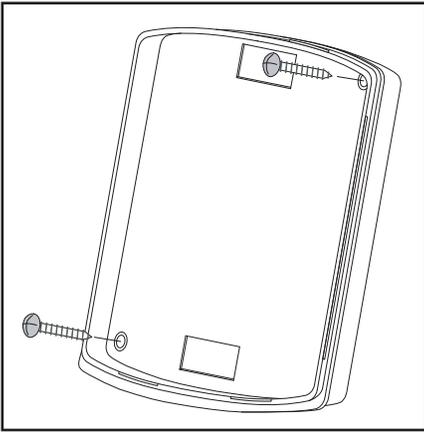

Figure 3: Screw Mount
These instructions cover installing the 1141 on an interior wall. Figures 3 and 4 show the base housing inside and outside views. For a water-resistant installation use the double-sided tape mounting procedure.
3. Using two #6 Phillips head screws (not included), press through the depressions and mount the base to the wall. See Figure 3.